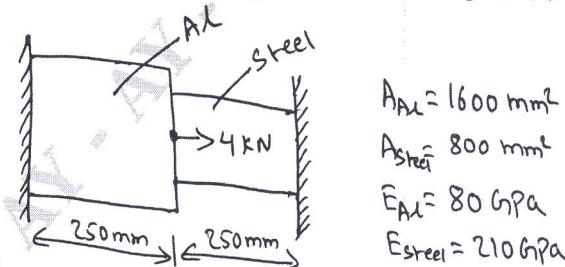

Fig Q3(a)
3. a. Solve for stresses in members of structure given below in Fig Q3(a).